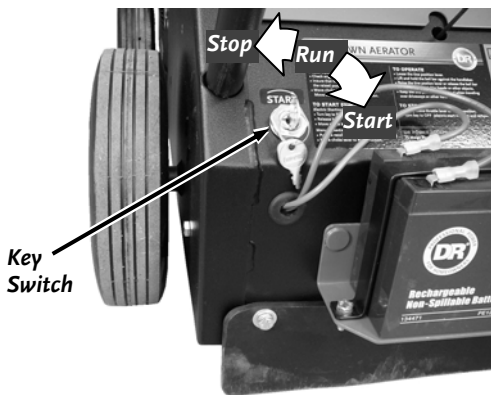

Figure 9
**Electric Start Engine** - Turn the Key Switch at the back of the machine clockwise to “START” until the Engine starts and then release (**Figure 9**). When released the Key will return back to the run position and the Engine will continue to run.